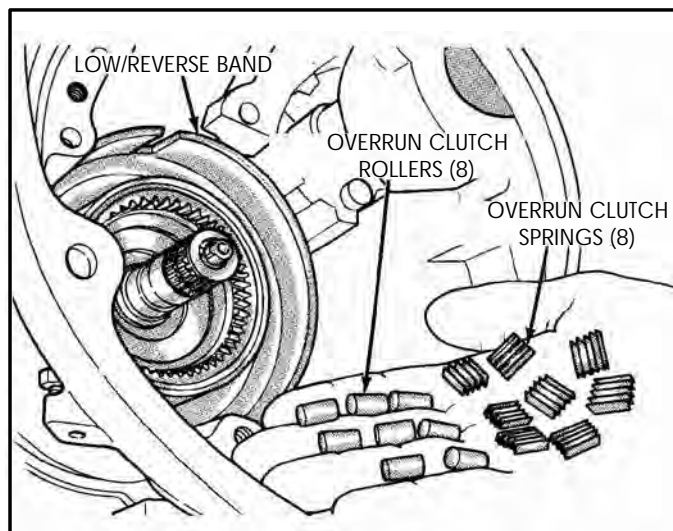

Figure 57
36. Remove low overrun clutch rollers and springs if any are in transaxle case (See Figure 57).